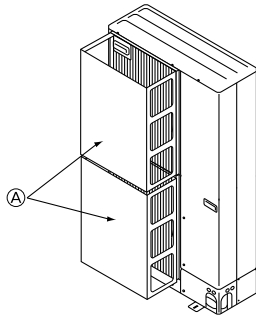

Fig. 2-4
- ② Install an optional air outlet guide if the unit is installed in a location where strong winds from a typhoon, etc. may directly enter the air outlet. (Fig. 2-4)